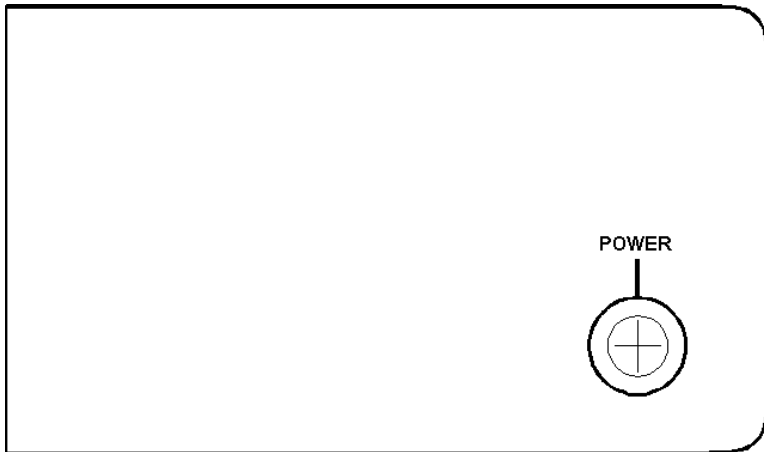

Figure 2 - Control Panel With Single LED Power Indicator
- **Standard Desk Top Station, Without Options** - The standard Station has only a single RED LED to indicate when the power supply is ON (see Figure 2).